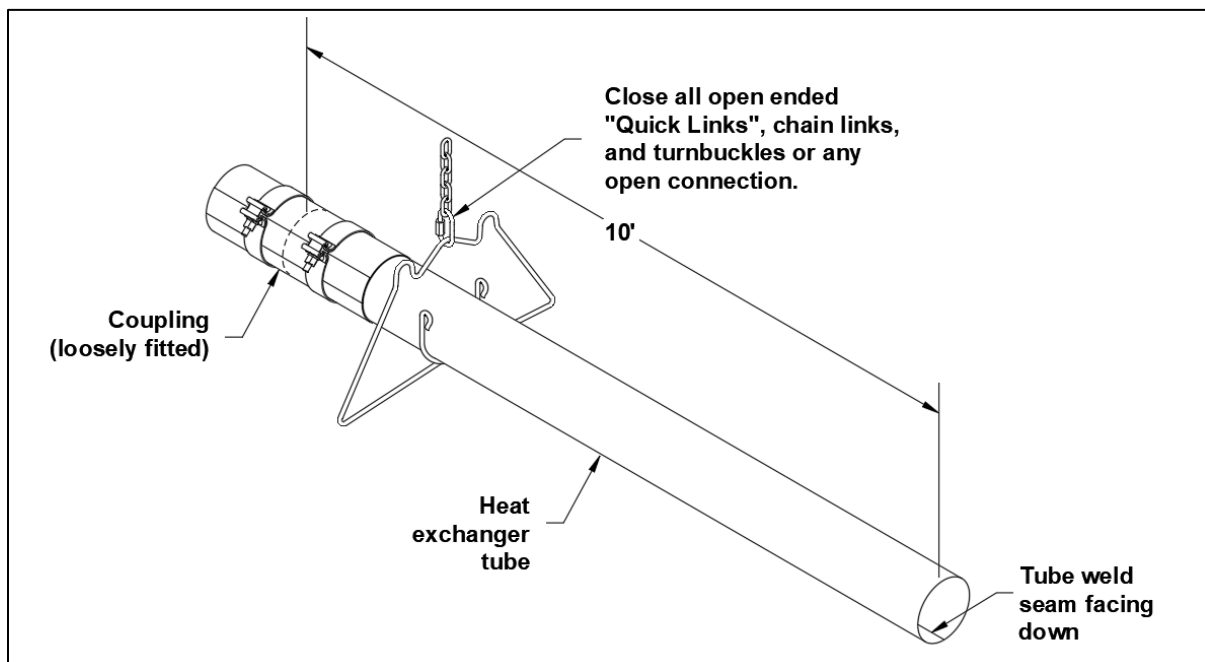

Figure 7: Installation of Heat Exchanger Tube and Coupling
- For all remaining tubes, fit the end of the tube with a coupling refer to Figure 7, (the coupling should be loose).